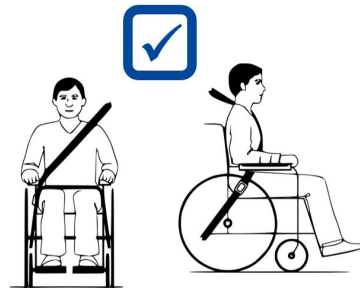

Figure 4
8. Make sure that the shoulder-belt restraints fit over the shoulders, see figure 4.